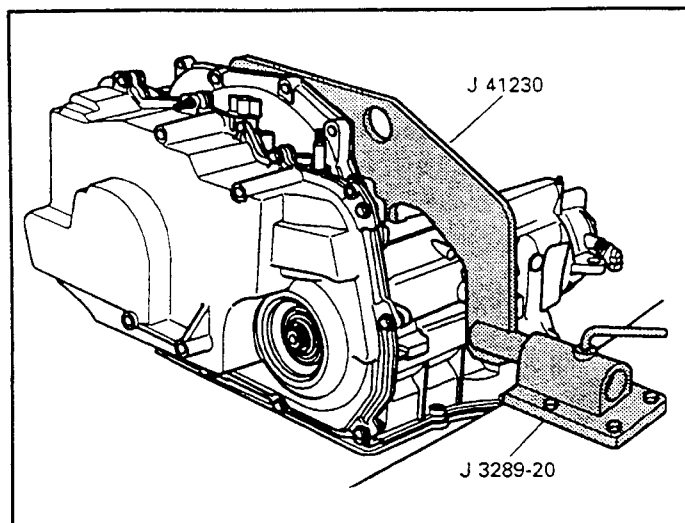

Figure 44
4. Install transaxle support fixture J-41230 onto the transaxle as shown in Figure 44, and torque the bolts to 10 ft.lb.
5. Install the transaxle and support fixture into the fixture base J-3289-20 that is bolted to bench, as shown in Figure 44.